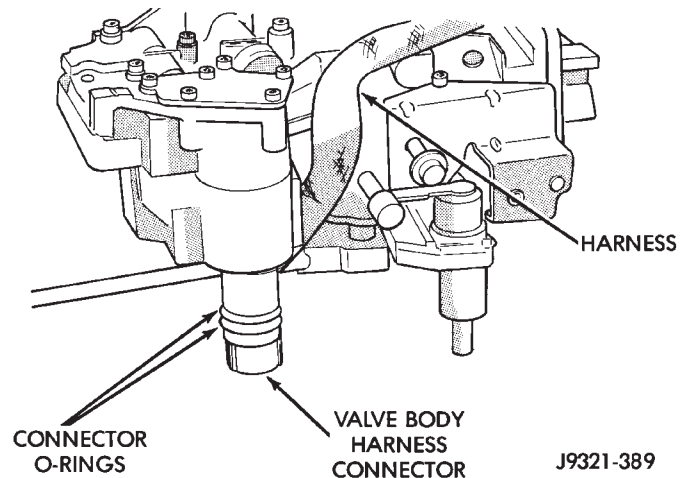

Fig. 46 Valve Body Harness Connector O-Ring Seal
(1) Verify that park/neutral position switch has NOT been installed in case. Valve body cannot be installed if switch is in place.
(2) Check condition of O-ring seals on valve body harness connector (Fig. 46). Replace seals on connector body if cut or worn.